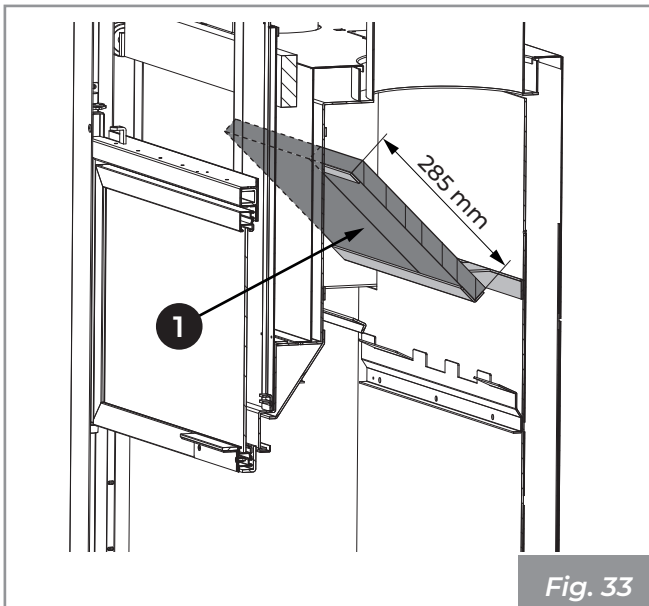

Fig. 33
5) Slide out and extract the panels (1) (Fig. 33).